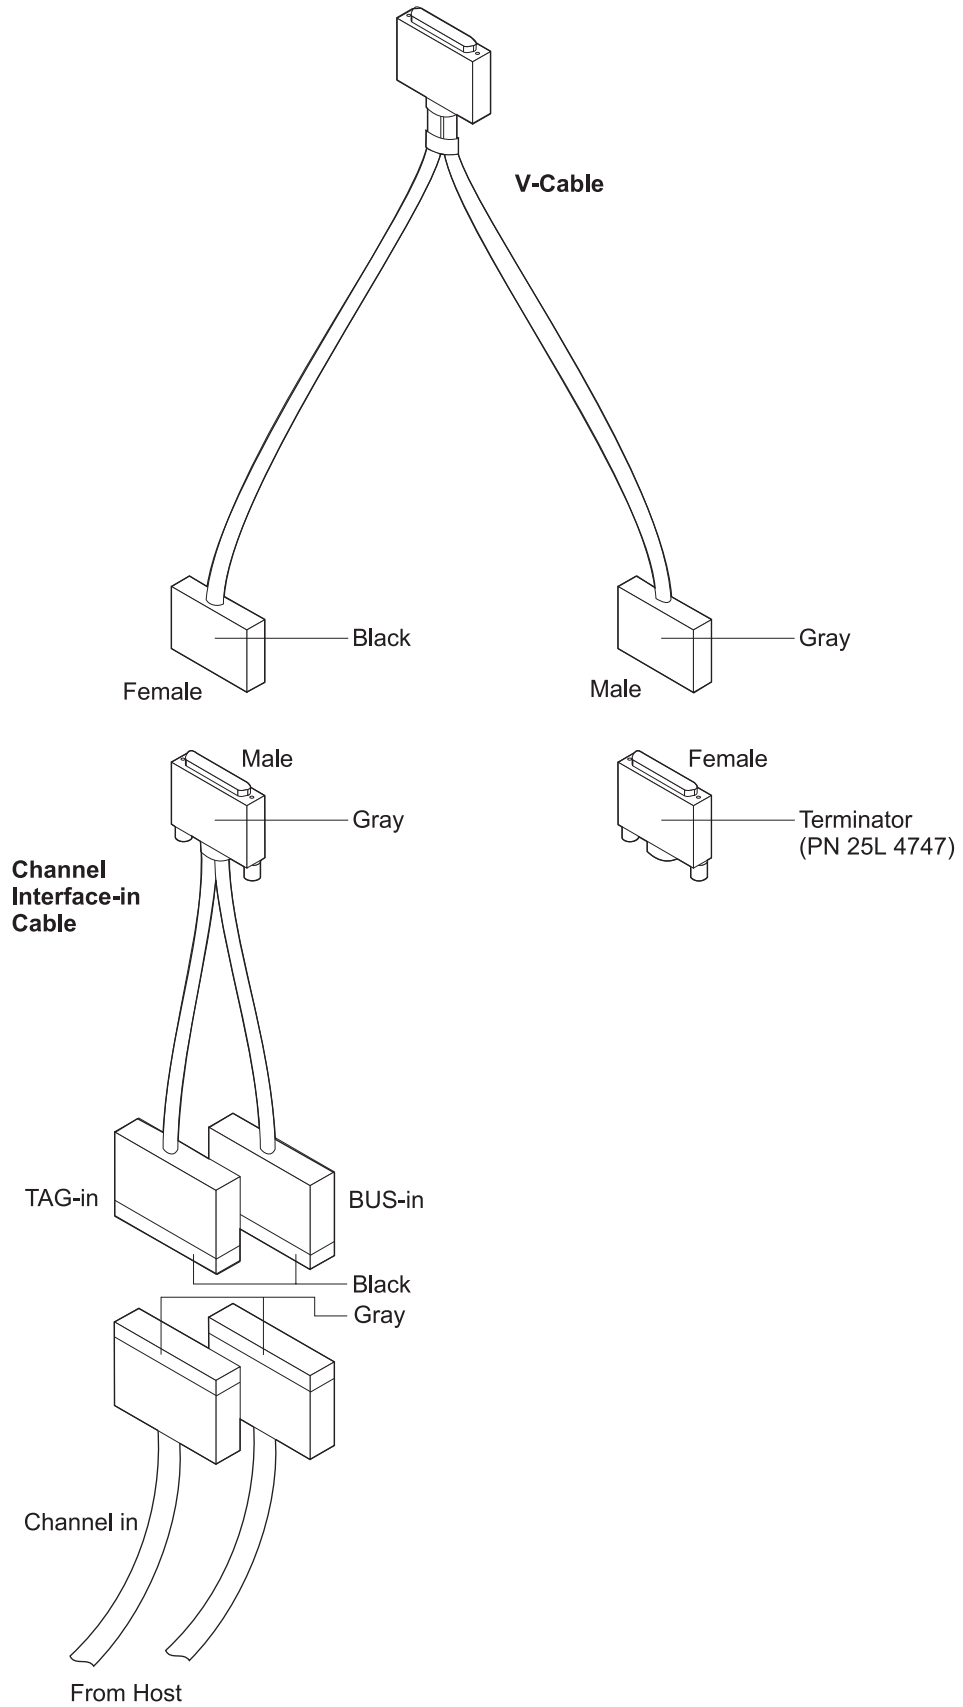
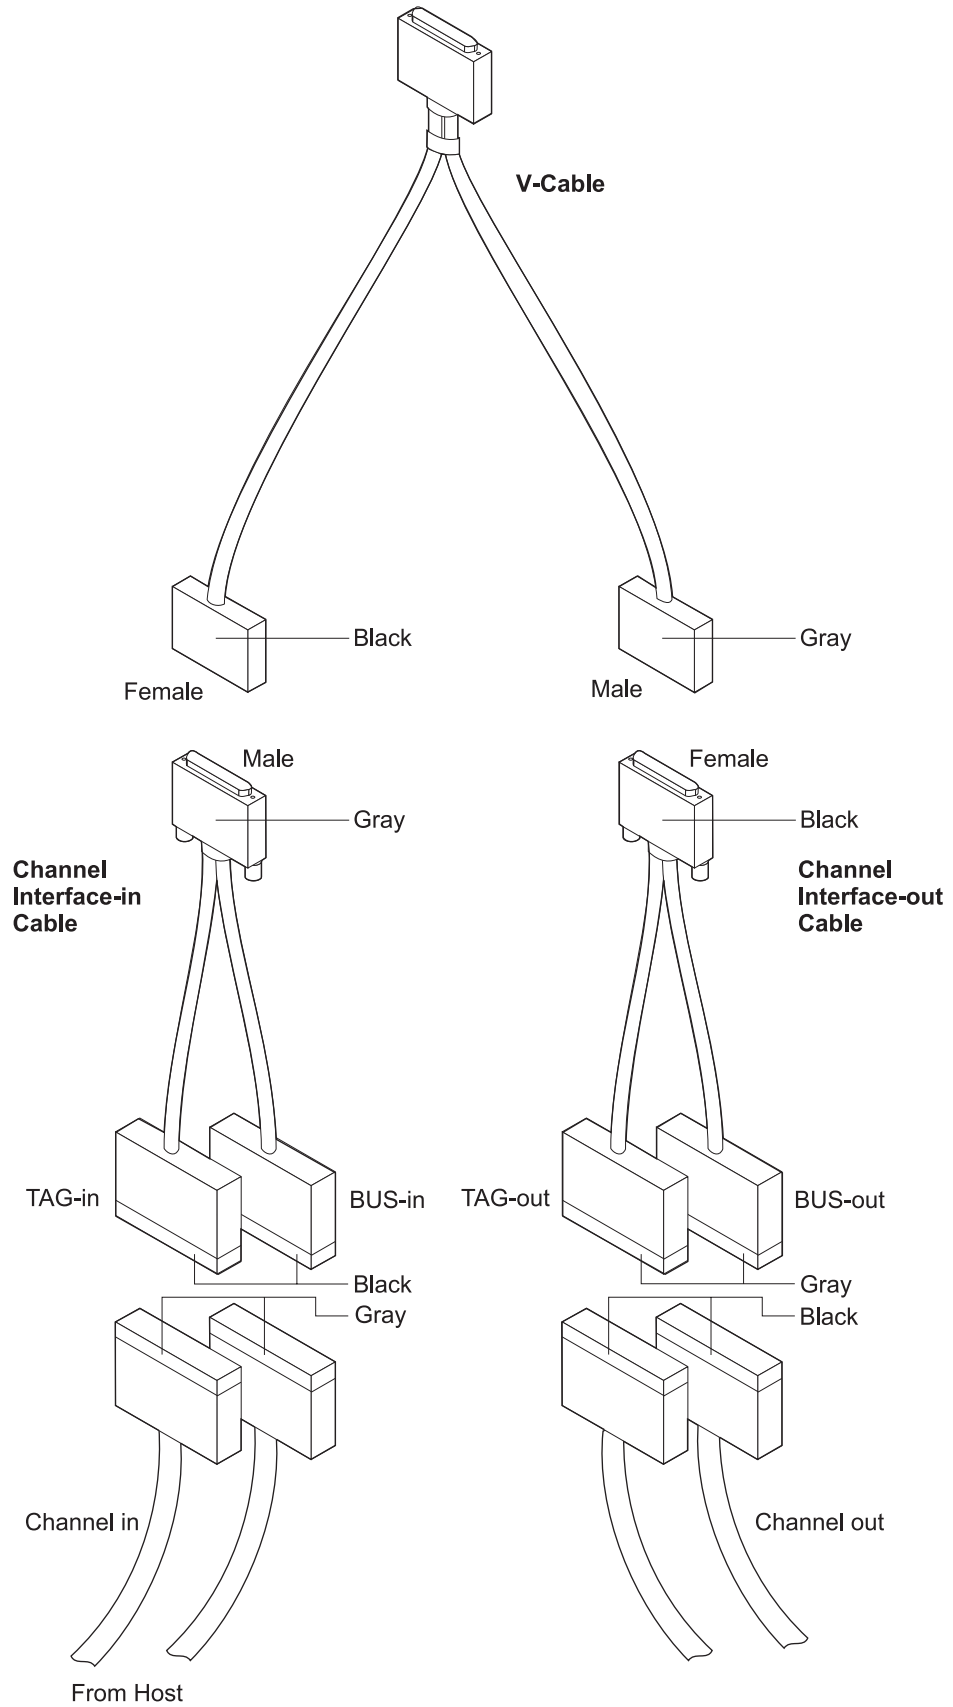

Figure 4-2. Cabling to IBM 2216 at the End of Channel
Figure 4-3. Cabling to IBM 2216 in the Middle of the Channel
The adapter attaches to the channel with the Channel Interface Cable group (*V-cable and two unique optional-order Channel Interface Cables*). Figure 4-3 on page 4-5 shows how the cables attach to the channel.
6. Use Figure 4-2 on page 4-4, Figure 4-3 on page 4-5, and Figure 4-4 on page 4-6 as reference to continue the next steps. Connect the Parallel Channel Adapter cables beginning at the host channel cable.